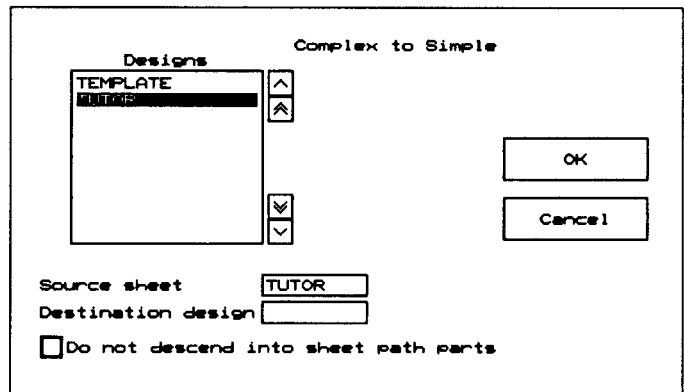

Figure 2-12. *Complex to Simple* window.
1. Select **Complex to Simple**. The window shown in figure 2-12 displays.